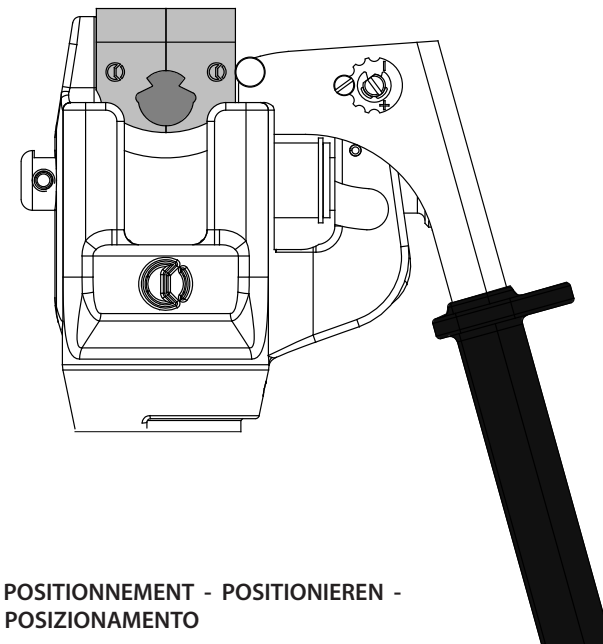

FIG. 4 POSITIONING - POSITIONNEMENT - POSITIONIEREN - COLOCACION - POSIZIONAMENTO
- Position the conductor inside the die set so that the blade (15) lines up with the desired cutting point.
- Close the die set (see Fig. 3) by moving the locking handle (49) towards the tool body, until automatically 'locked' in position and securely clamping the wire/conductor (see Fig. 4).